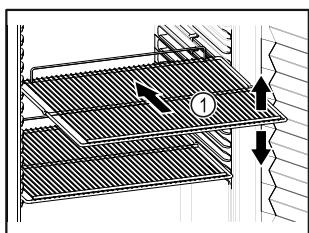

Fig. 57
- If there are adjustable shelves *Fig. 57 (1)*, position them as required.